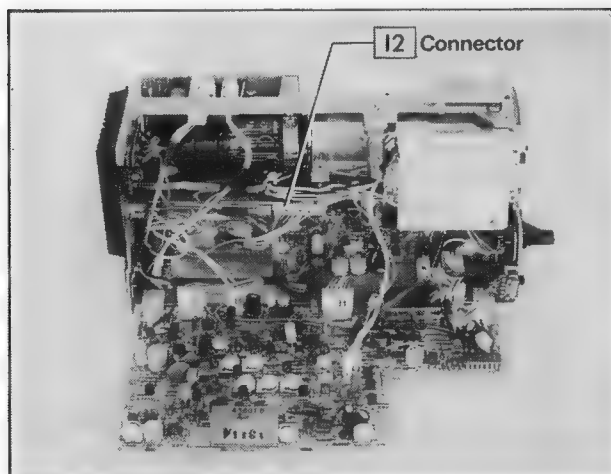

Fig 7.9 Location of **I2** (CA 3501A)
- (1) Set POWER switch to the OFF position and remove the shield case from the components side of the SSG and Encoder PCB (CA 3501A)
- (2) Set POWER switch to the ON position and connect the frequency counter probe between point **I2** (IC 01 27 PIN line of CA 3501A) as shown in Figure 7.9 and earth
- (3) Adjust C06 **SC FREQ** on CA 3501A until frequency counter reads  $4.43362\text{MHz} \pm 10\text{Hz}$ .